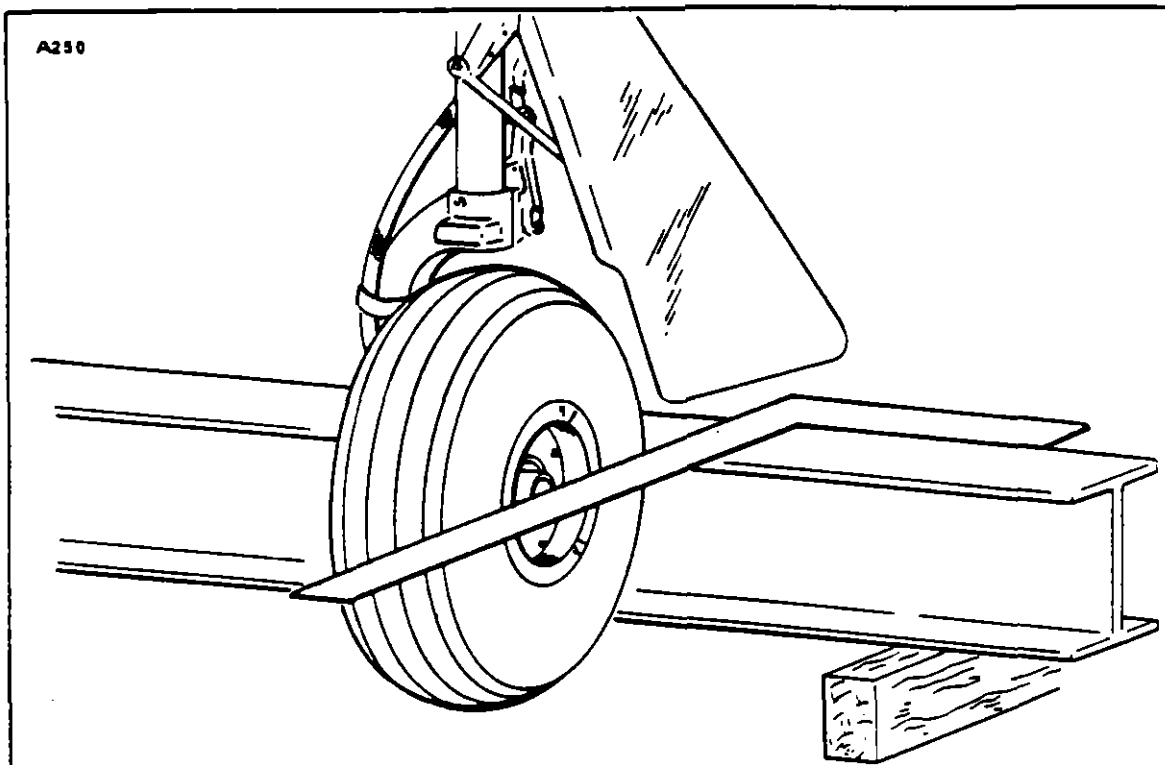

Figure 7-11. Aligning Main Gear
b. Set a square against the straight edge and check to see if its outstanding leg bears on the front and rear sides of the main landing gear tire. (Refer to Figure 7-11.) If it touches both outboard sides of the tire, the landing gear is correctly aligned. The toe-in for the main landing gear wheels is 0 degrees.